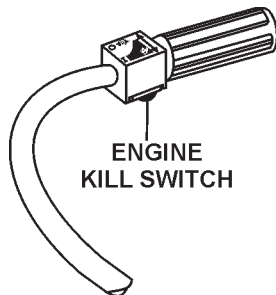

Figure 18. Engine Kill Switch
3. Press the engine **KILL** switch (Figure 18) to shutdown the engine. The engine kill switch is located underneath the metal square box on the handle.
1. Press the engine **KILL** switch (Figure 18).